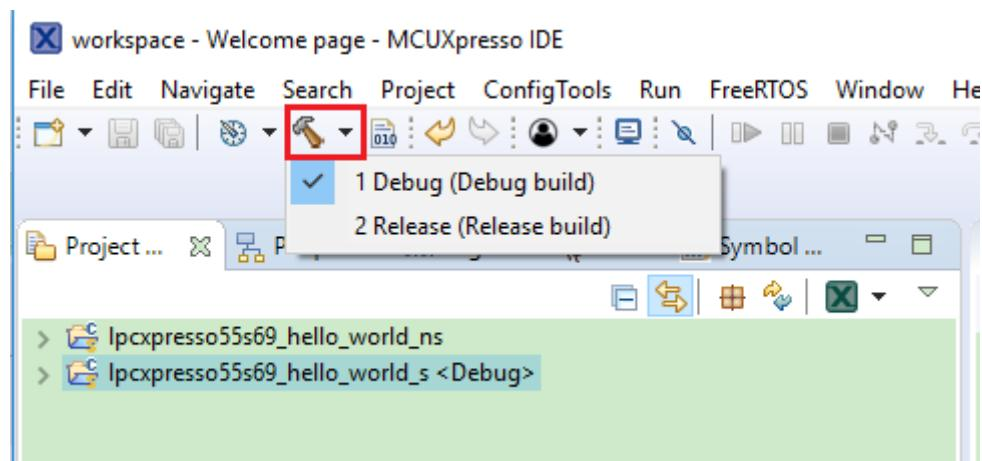

Figure 30. Selection of the build target in MCUXpresso IDE
3. Now, two projects should be imported into the workspace. To start building the TrustZone application, highlight the `lpcxpresso55s69_hello_world_s` project (TrustZone master project) in the Project Explorer. Then, choose the appropriate build target, **Debug** or **Release**, by clicking the downward facing arrow next to the hammer icon, as shown in Figure 30. For this example, select the **Debug** target.